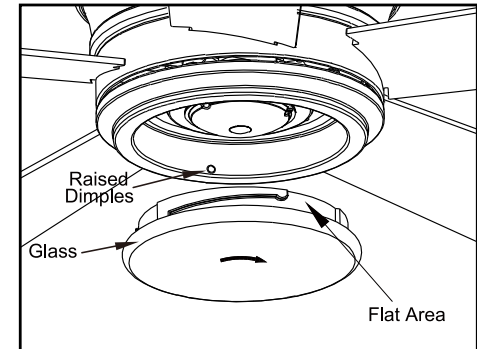

Figure 16
5. Place the glass bowl into the light kit pan, aligning the three flat areas on the top of the glass bowl with the three raised dimples in the light kit pan. Turn the glass bowl clockwise until it stops. (Figure 16)